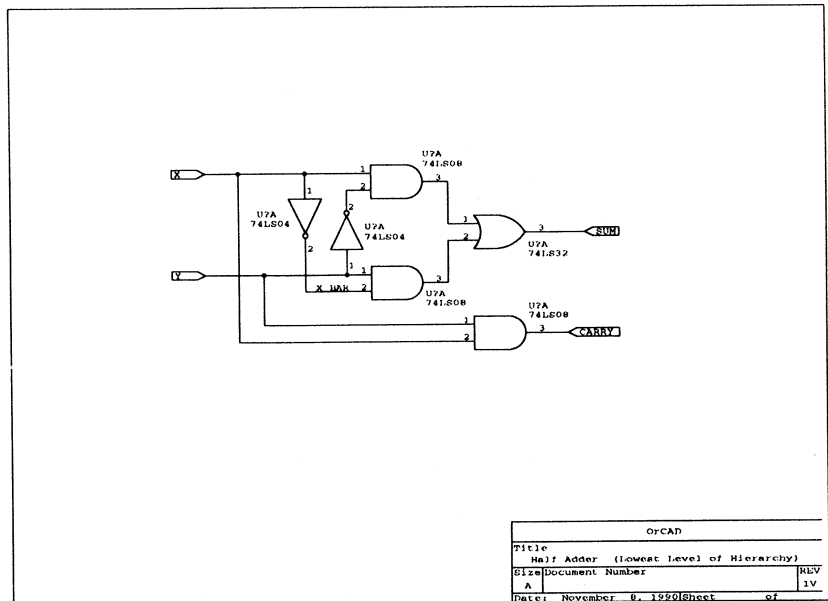

Figure 8-10. HALF ADDER worksheet.
2. Place the pointer inside one of the sheet symbols and select **Enter**. **Draft** displays the worksheet referenced by the selected sheet symbol. Figure 8-10 shows the half adder circuit.